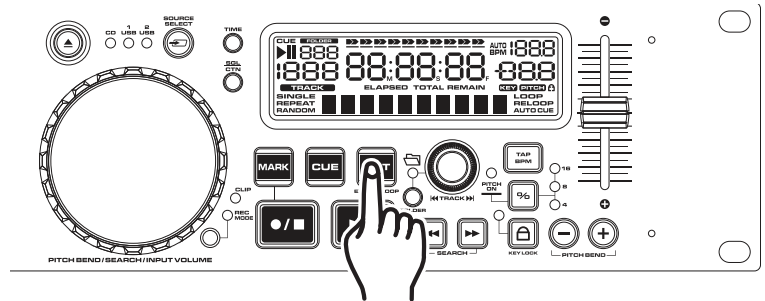

Figure 21
1) Press *PLAY/PAUSE BUTTON* (16) to activate playback mode.
2) Press the *OUT/EXIT/RELOOP BUTTON* (18) to set the ending point for your SEAMLESS LOOP (Figure 21). The OUT and CUE BUTTONS will flash indicating a SEAMLESS LOOP is playing. Press the *OUT BUTTON* again to exit the Loop.